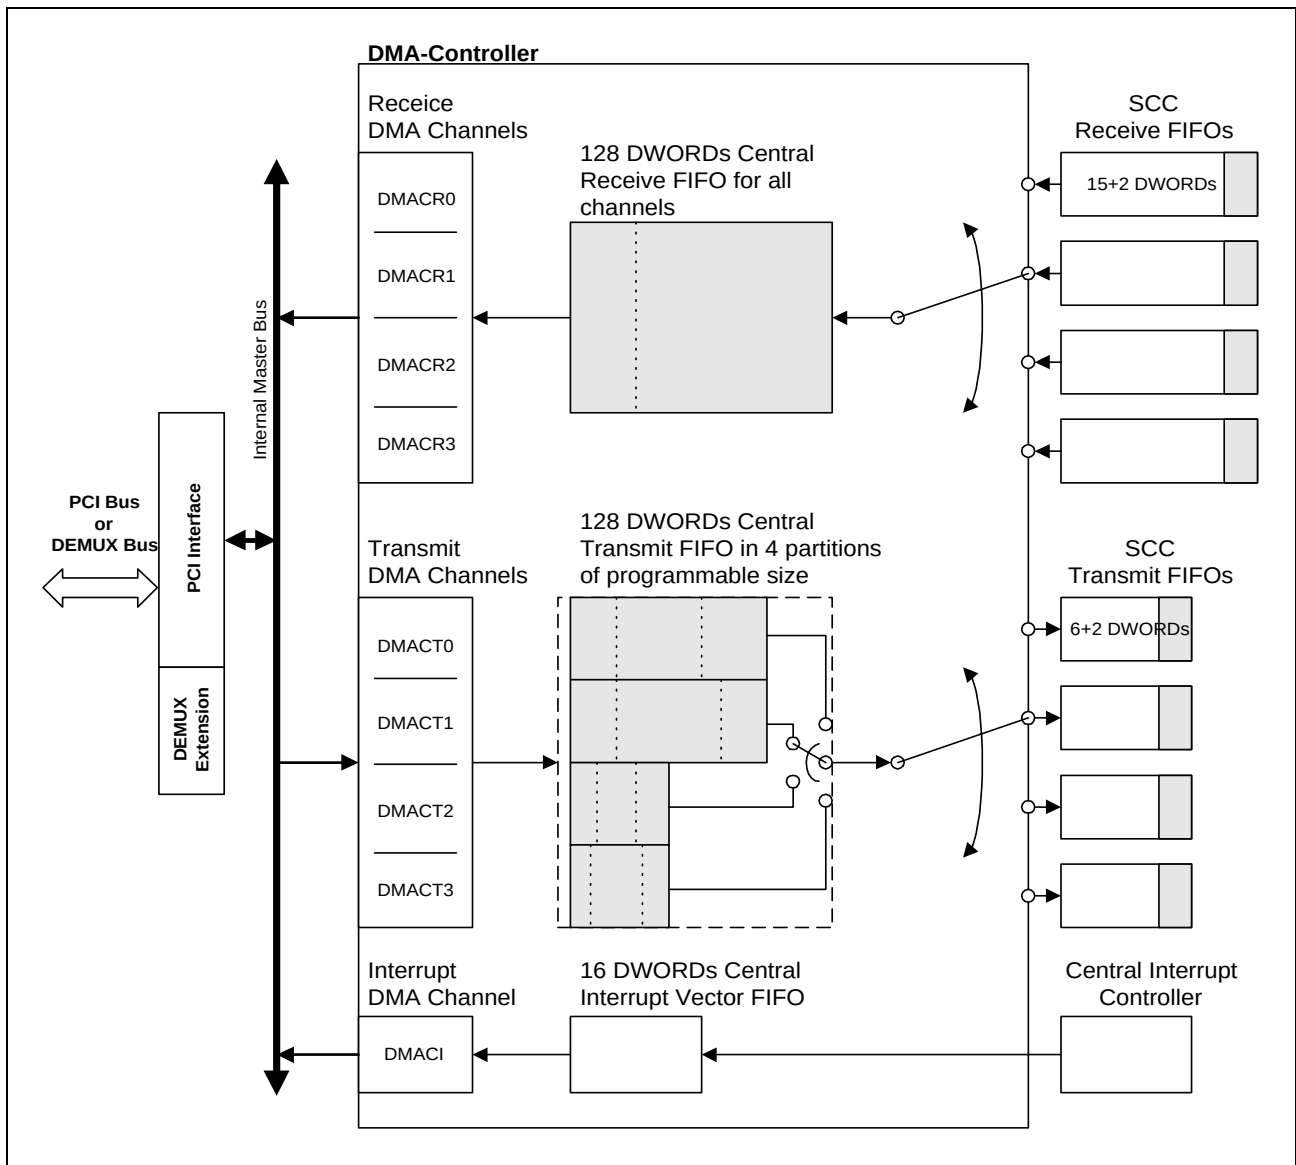

**Figure 11 DMA Controller Block Diagram**
**Figure 11** shows the block diagram of the DMA Controller.